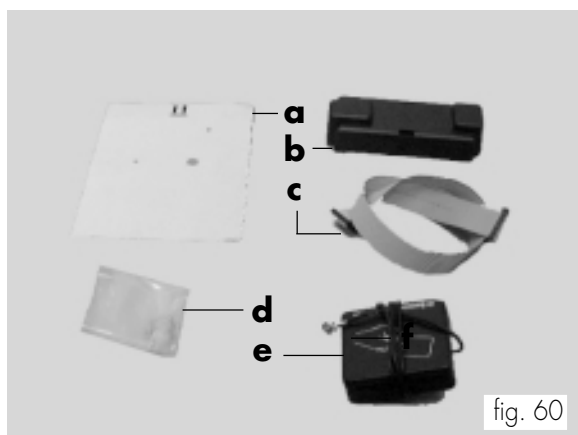

fig. 60
### Assembly kit (fig. 60)
- Place the adhesive sheet (ref. a, fig. 60) on the lower tile (fig. 61). Drill according to the diagram on sheet using a 3 dia. point for the two small holes and a 10 dia. point for the other hole.
- Fasten the universal module by means of the 4 screws and spacers (ref. d, fig. 60) on the door (fig. 66).
- Assemble the guard (ref. b, fig. 60) on the universal module (fig. 69).
- Connect the universal module to the I/O card (fig. 67) by means of the flat cable (ref. c, fig. 60).